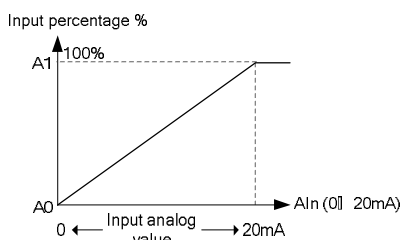

Fig.6-20 Corresponding percentage of input analog value (current)
- When current analog value input is selected, please refer to Fig.6-20.